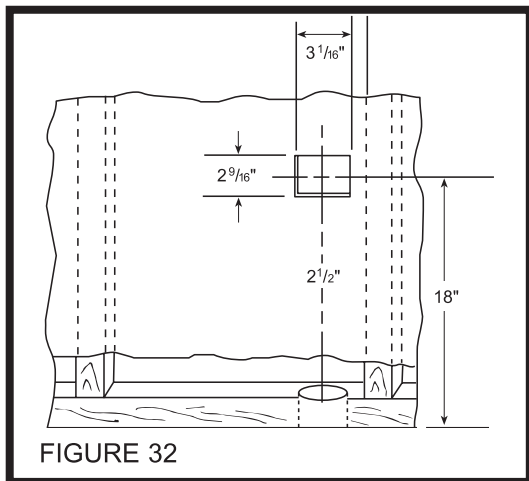

FIGURE 32
1. If area is clear, cut an inlet opening in the wall approximately 18" above the floor. Make sure wall opening and 2½" tube hole line up (Figure 32).